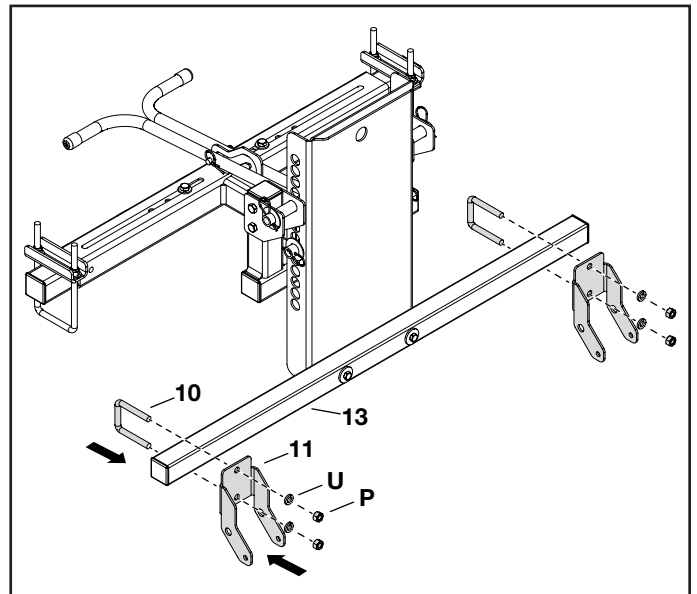

FIGURE 9
STEP 9: (SEE FIGURE 9)
- Attach mounting brackets (11) to the square tube (13) using two U-bolts (10).
- Secure the U-bolts about 3 inches from end of square tube (13) with four washers (U) and four hex nuts (P).